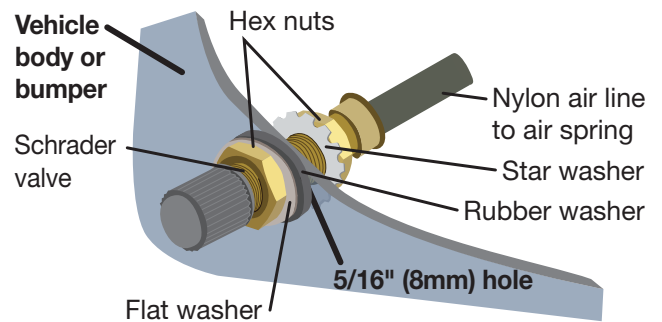

Fig. 25
4. Install the Schrader valve in the chosen location (Fig. 25).